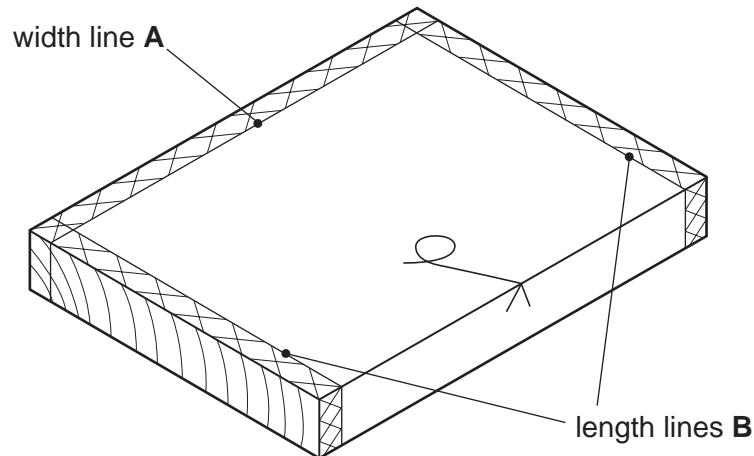

Fig. 1
- 1 Fig. 1 shows a piece of wood which has been marked out to width and length.